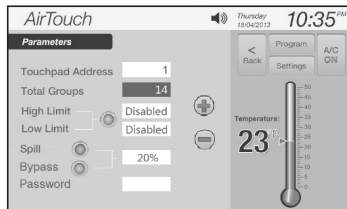

Figure 9.
- Touch the total group field,  and  buttons will appear (Figure 9).